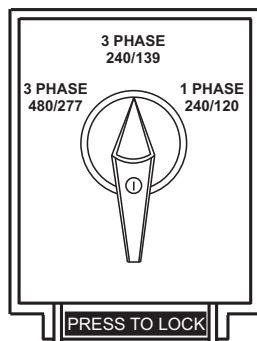

Figure 22. Voltage Selector Switch
1. Place the voltage selector switch in the 3Ø 240/139V position as shown in Figure 22.